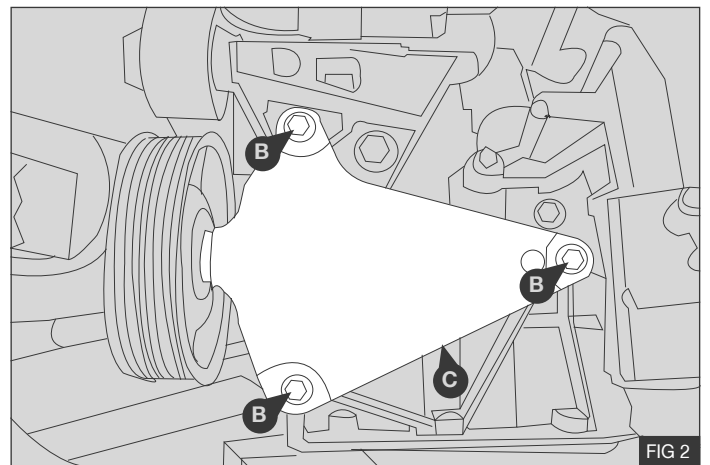

FIG 2
2. Unscrew the M8 bolts **(B)** holding the original idle pulley assembly **(C)** - Fig 2.
3. Dispose of the original bolts **(B)** and pulley assembly **(C)** - Fig 2.